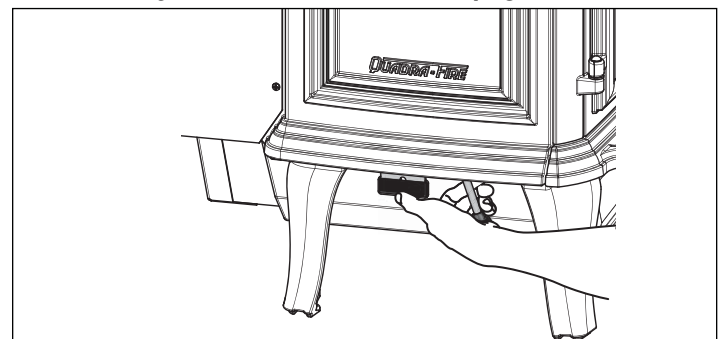

Figure 15.1
- a. The stove and ashes must be completely cooled down before using the Ash Removal System. Reach down and locate the ash removal door handle under the left side of the stove in the center. Grasp the handle with your fingers and place your thumb on the latch release (**Figure 15.1**). Press the latch release inward. Keep the latch release pressed in and lower the handle gently. Take your thumb off the release once the handle is clear of the latch and guide the handle back until it stops.